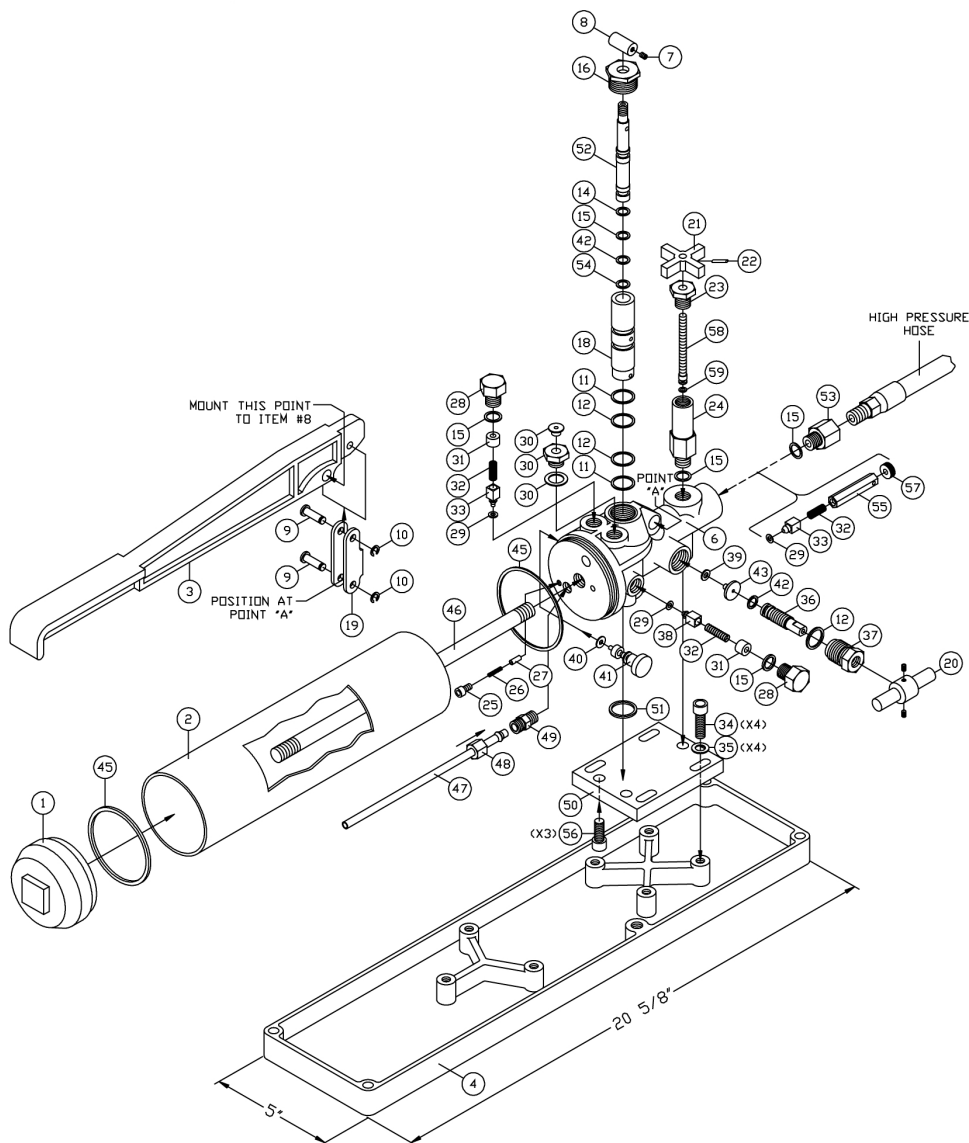

Figure 2: Hand Pump Assembly (Drawing 214000A-01)
Before connecting the hand pump to the jack, check the supply of fluid in the pump reservoir by removing the fill plug (item 30, Figure 2). The fill plug must be left open about two turns during operation to serve as a reservoir vent. If hydraulic fluid must be added be sure to use petroleum base anti-wear hydraulic fluid with an ISO Viscosity Grade of 22 or 32. The following hydraulic fluids are recommended, but any equal hydraulic fluid may also be used:
If the pump and jack fail to develop or hold pressure, corrective maintenance may be necessary. (All numbers in parenthesis refer to items in Figure 2)
1. Check the supply of fluid in the pump reservoir by removing the fill plug (item 30, Figure 2). The fill plug must be left open about two turns during operation to serve as a reservoir vent. If hydraulic fluid must be added be sure to use petroleum base anti-wear hydraulic fluid with an ISO Viscosity Grade of 22 or 32 as recommended in Section 3, Preparation for Use.
Following are a few suggestions regarding the disassembly and reassembly of the hand pump. (All numbers in parentheses refer to items in Figure 2.)
Figure 2 and the associated parts list, included in this manual, illustrate replacement parts available for the standard hand pump commonly supplied with Morehouse Hydraulic Jacks. Drawings and parts lists for specific capacity hydraulic jacks are supplied separately. If copies of drawings and parts lists of a specific capacity jack are required write to us for the appropriate drawings.